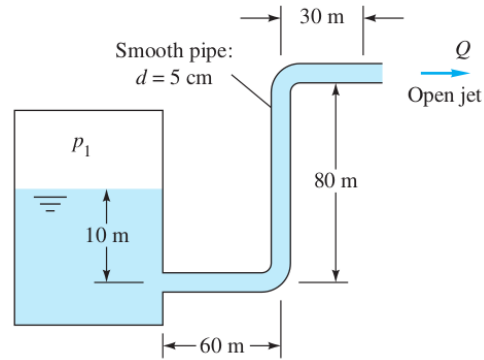

Fig. 6.5
- 6.5 The pipe flow in Fig. 6.5 is driven by pressurized air in the tank. What gage pressure p_1 is needed to provide a 20°C water flow rate $Q = 60 \text{ m}^3/\text{h}$?